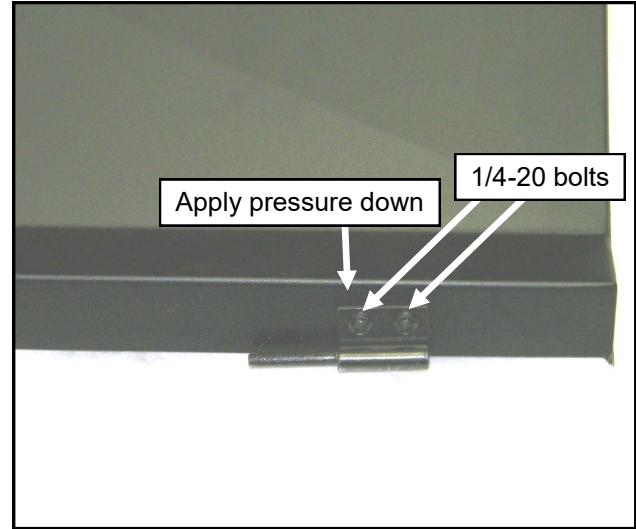

Fig. 16.1 Rear canopy hinges
**16.1** Per figure 16.1, loosen the (2) 1/4-20 bolts for each hinge on the front of the rear canopy. Apply pressure to the hinge down towards the front edge of the canopy and tighten the bolts.